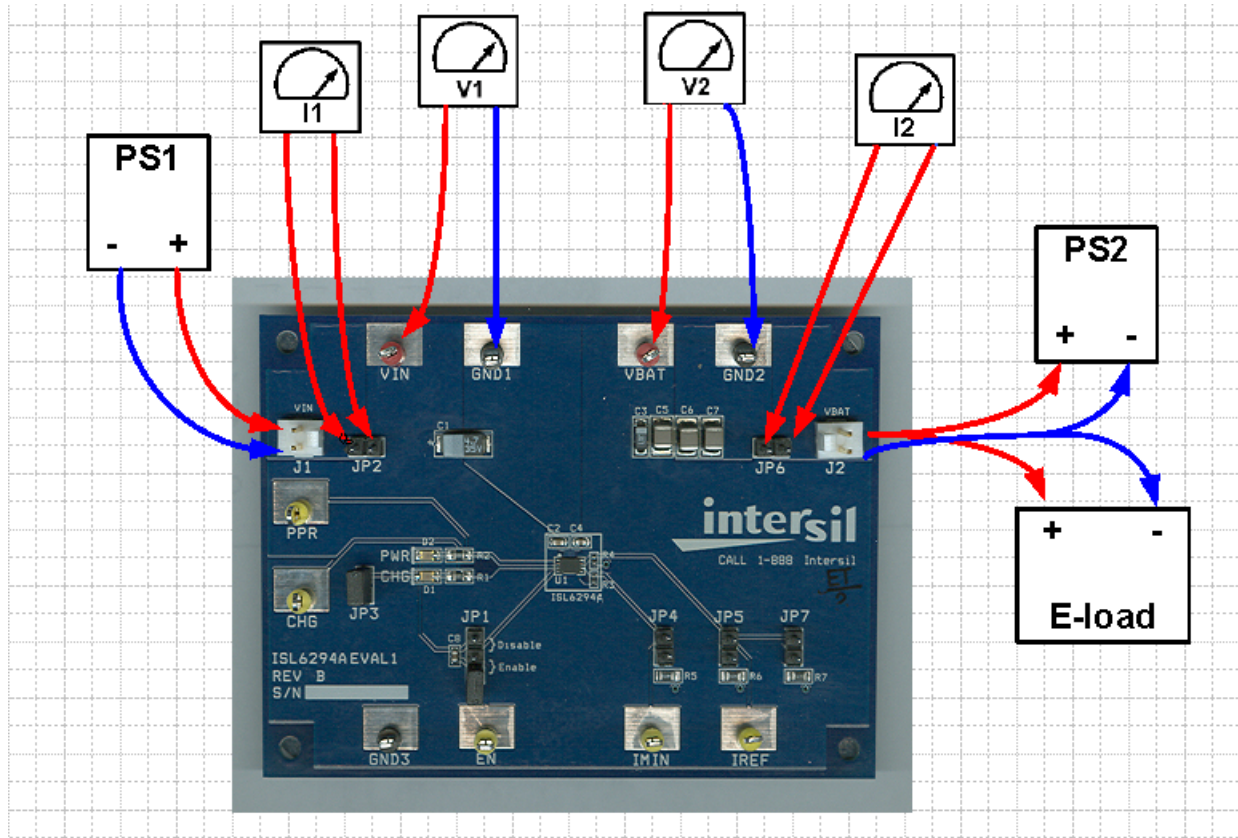

FIGURE 1. CONNECTION OF TEST INSTRUMENTS
## Quick Setup Guide (Refer to Figure 1)
- Step 3: Connect a current meter to JP6, as shown in Figure 1
**JP2** - A shunt installed on JP2 connects the input source from connector J1 to the circuit if input current measurement is not needed. The shunt can be replaced by a current meter if input current measurement is needed, as shown in Figure 1.
**JP6** - A shunt installed on JP6 connects the BAT pin to the output connector J2 if output current measurement is not needed. The shunt can be replaced by a current meter if output current measurement is needed as shown in Figure 1.